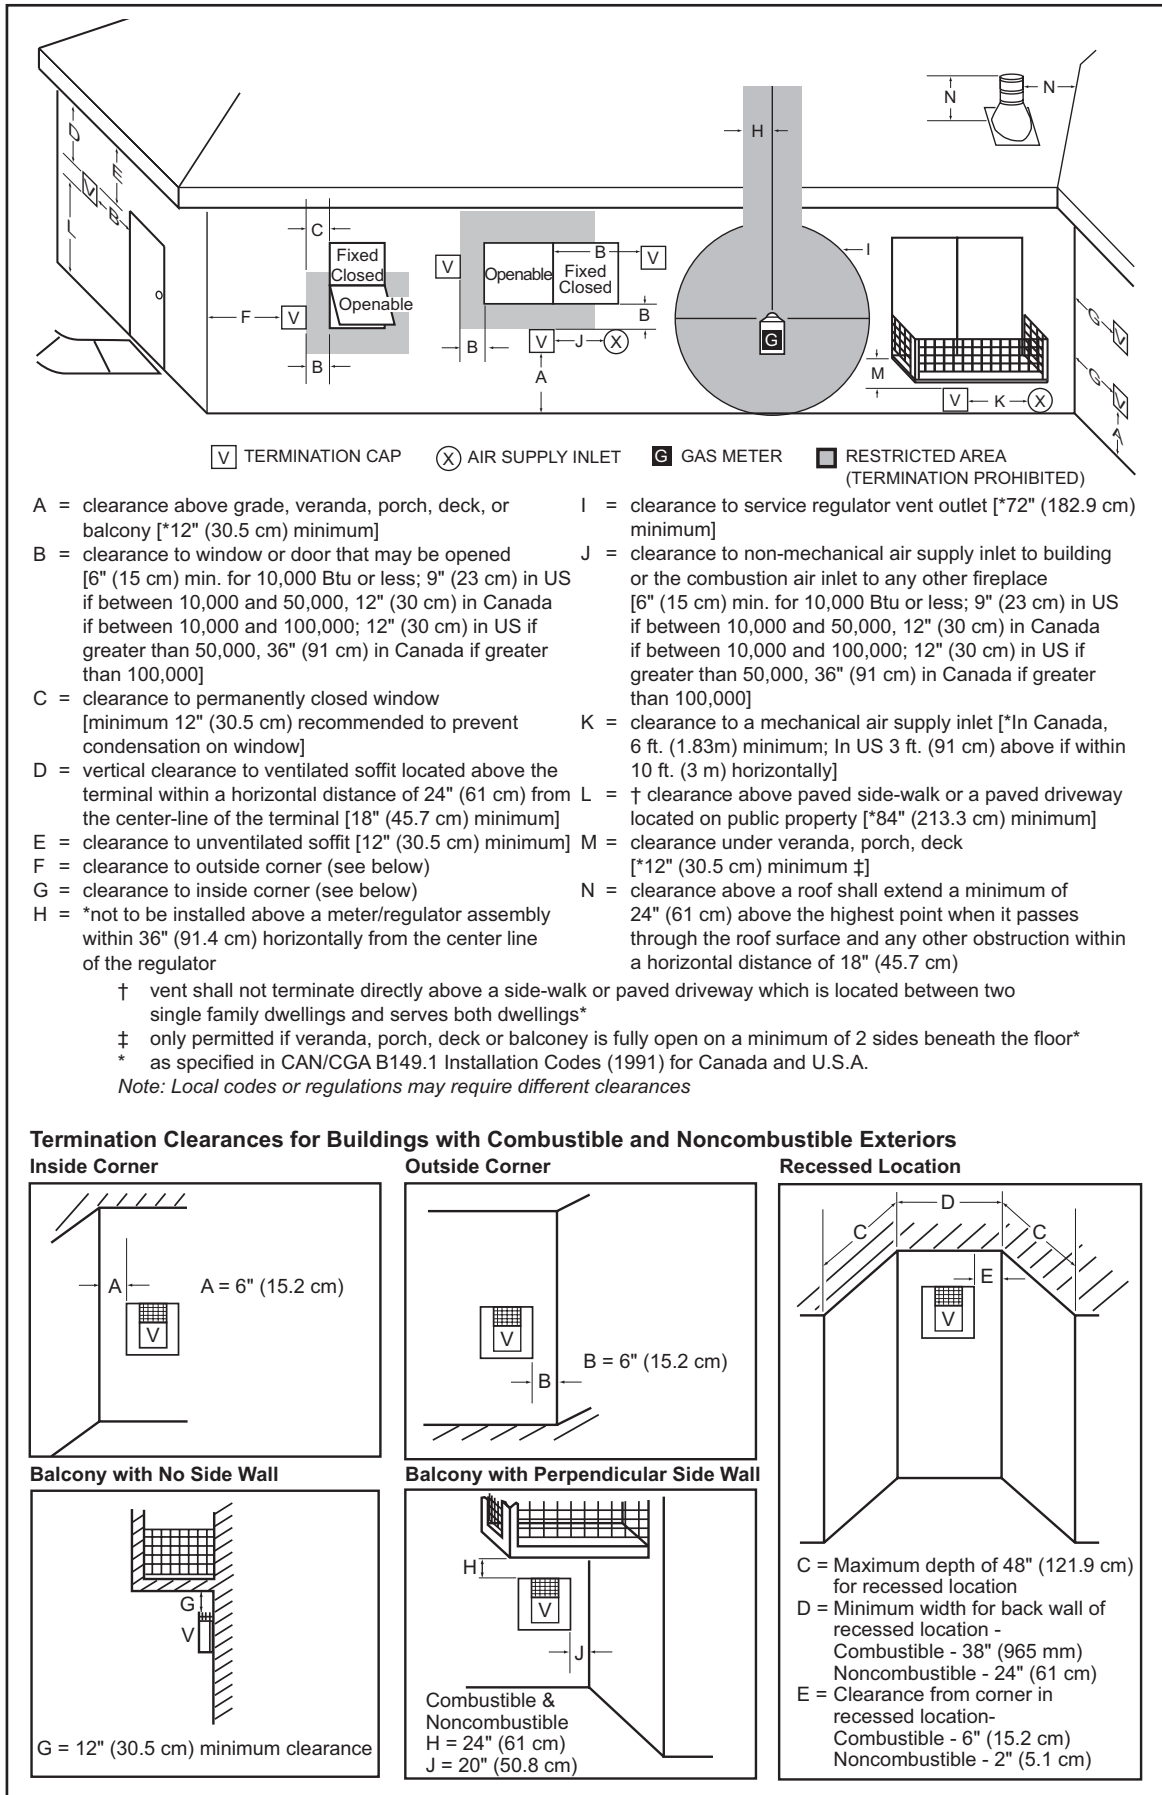

Figure 7 - Minimum Clearances for Termination Cap
- When locating termination cap, it is important to observe the minimum clearances shown in Figure 7, page 12.
Horizontal vent systems terminate through an outside wall. Building Codes limit or prohibit terminating in specific areas (Figure 7, page 12).